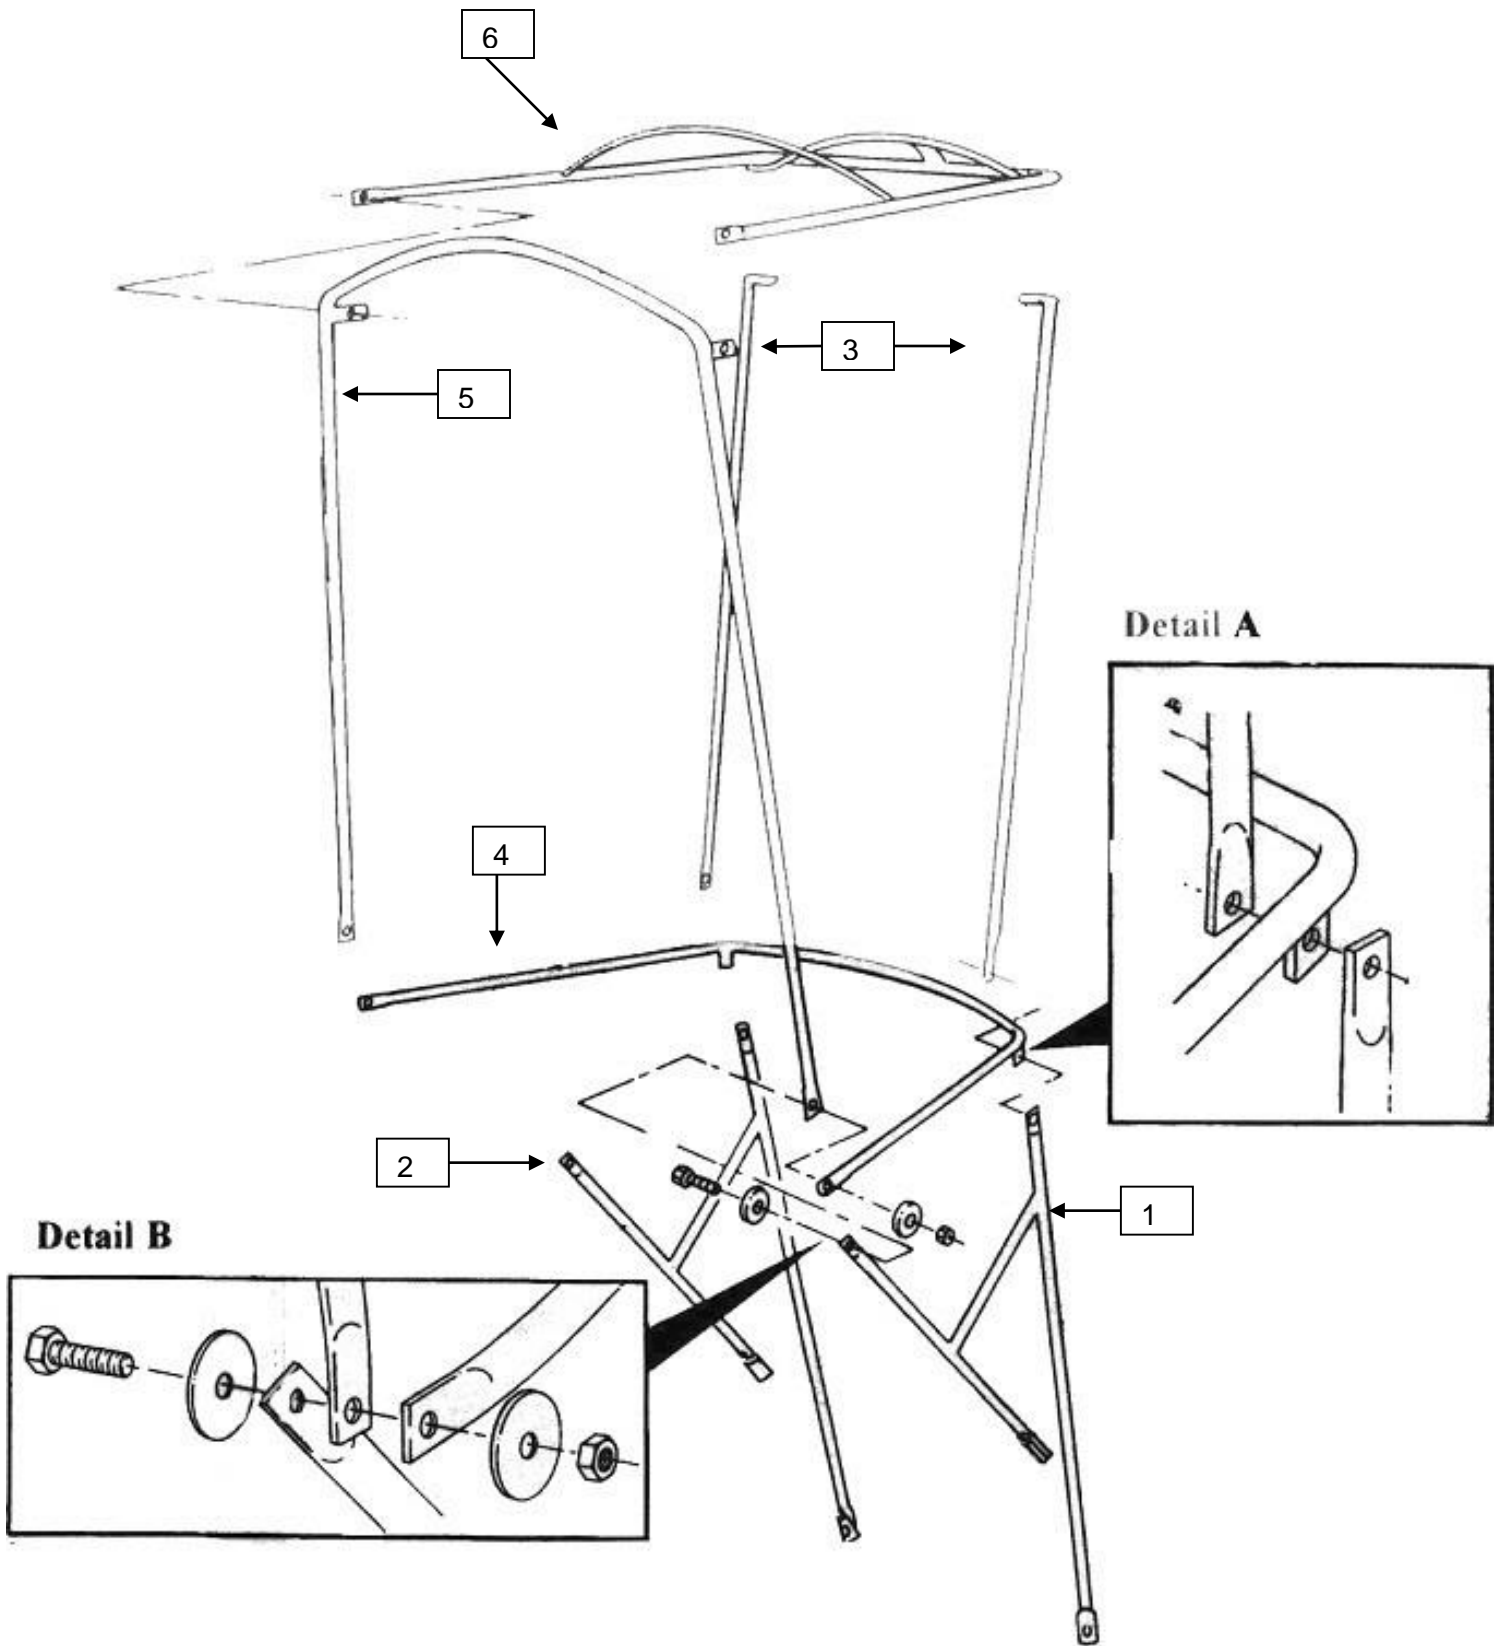

Figure 4
Step 4; See Figure 4:
- A.** Attach the Horizontal Bow (4) and the Front Posts (3) to the Brackets (1 & 2) using two 1/4" x 3/4" bolts and locknuts (refer to detail A).
Step 5; See Figure 4:
- A.** Mount each leg of the Rear Vertical Bow (5) to the Brackets and the Horizontal Bow using a 1/4 x 1" bolt, two 1/4" fender washers, and a locknut (refer to detail B).
Step 6; See Figure 4:
- A.** Attach the Top Frame (6) to the Rear Vertical Bow and the Front Posts using four 1/4" x 5/8" bolts and locknuts.
- D. Tighten all the bolts** making sure that the Rear Vertical Bow (5) is at a **90-DEGREE** angle to the Horizontal Bow (4). The Windshield area will lean slightly forward when the frame is properly assembled.